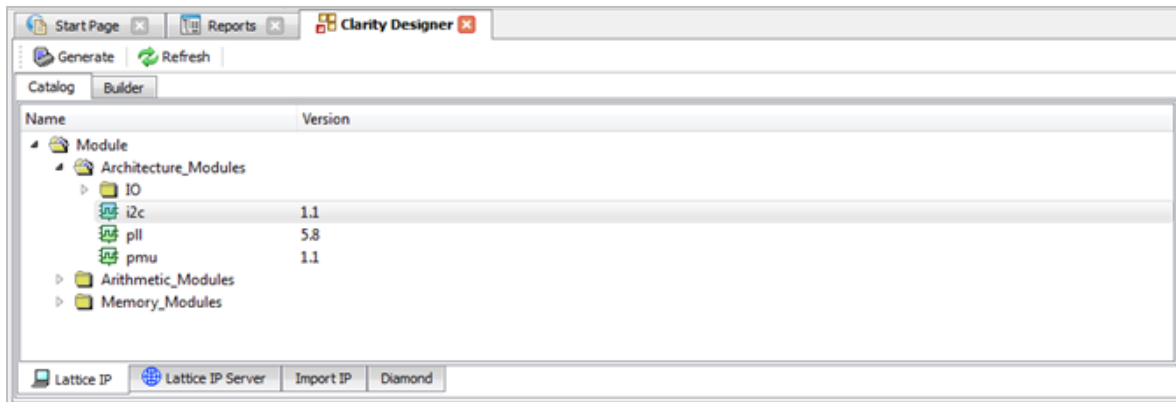

Figure 3.1. I²C Module in Clarity Designer
1. On the Lattice Diamond top menu, click **Tools**, and then **Clarity Designer**. With a CrossLink device targeted for the Diamond project, the Clarity Designer window appears and the I²C module is listed under **Module > Architecture_Modules** as shown in Figure 3.1.